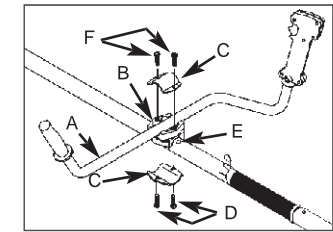
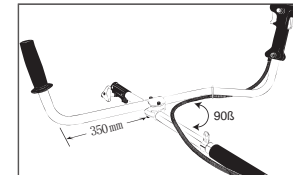

Fig. 1B
Fig. 1C
- To install handle onto unit, you will need the following components from your user kit: "bullhorn" handle (A), fixing holder (B), clamp (C) and screws (D). (Fig. 1B)
- Install the fixing holder (B) after the position point (E) on the shaft, put the clamp (C) over the shaft and tighten the 2 screws (D).
- Install the bullhorn handle (A) on the fixing holder, put the other clamp (C) over bullhorn handle, adjust handle to appropriate position and tighten the other 2 screws (F). (Fig. 1C)